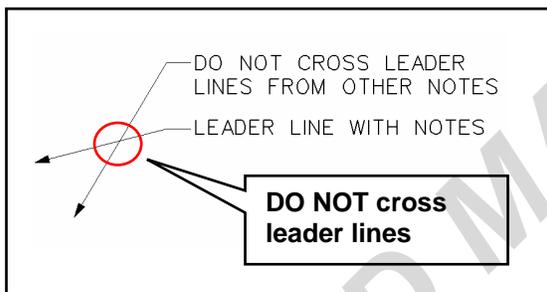

Figure 30b – Crossing of Leader Lines
- Do not overlap or cross with leaders from other notes (See Figure 30b)